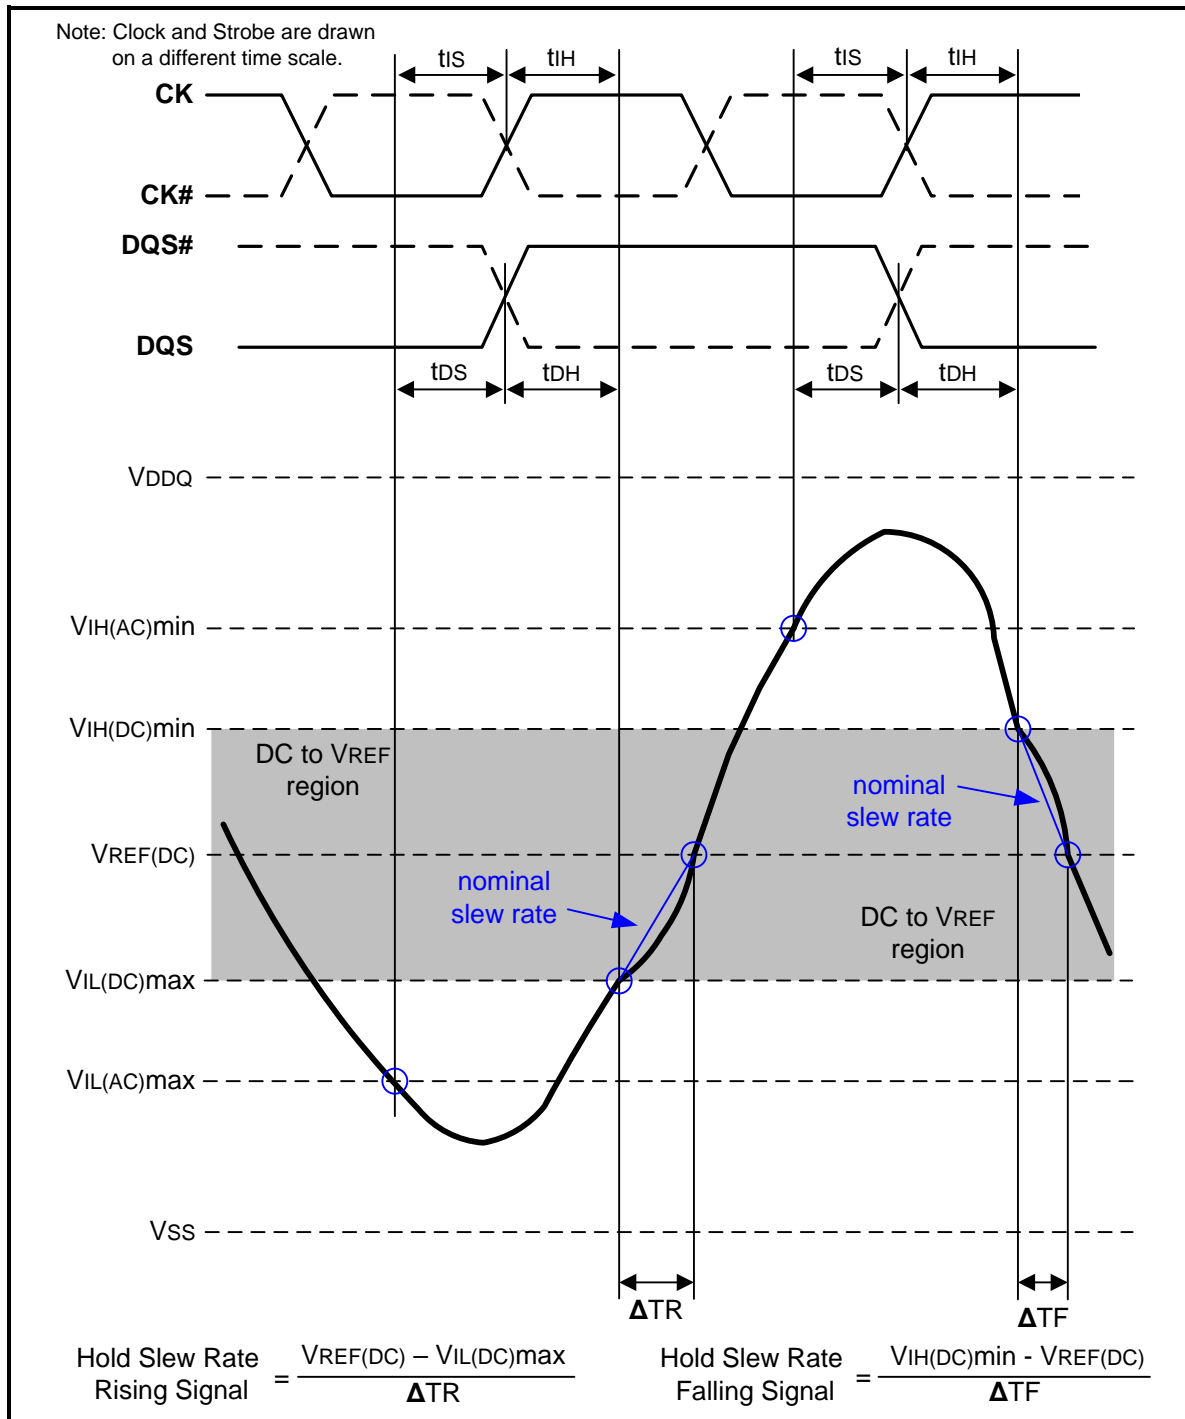
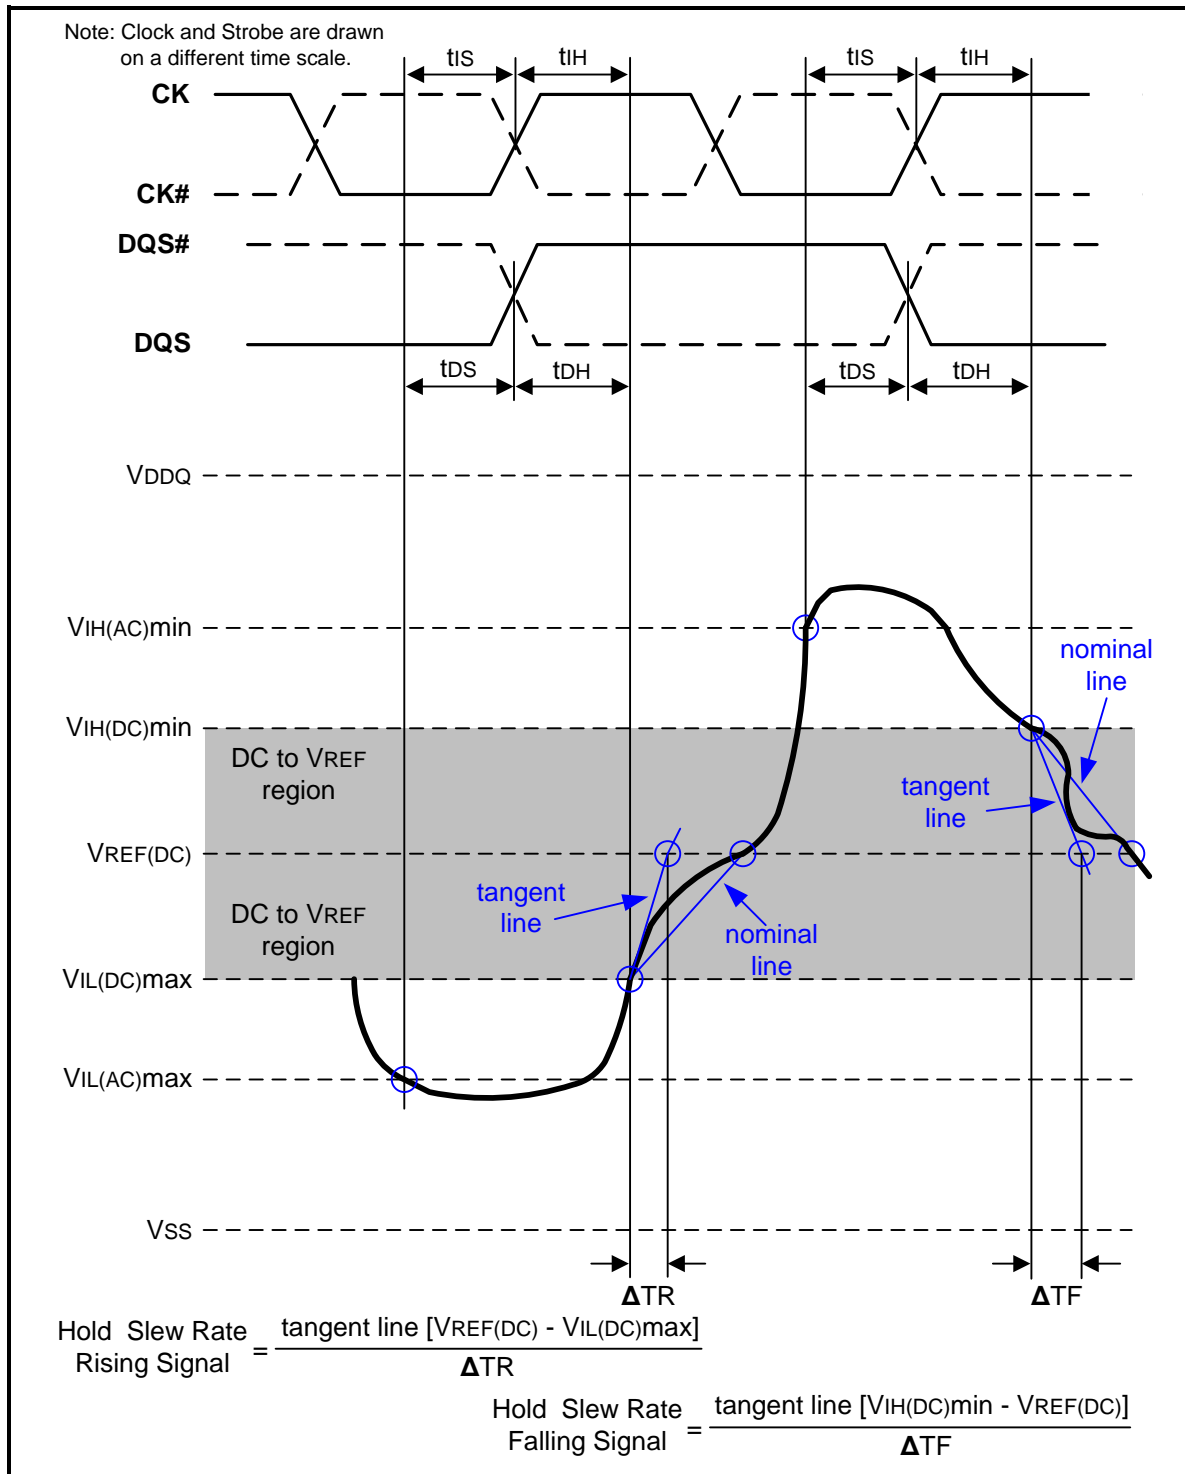

Figure 108 – Illustration of nominal slew rate for hold time tDH (for DQ with respect to strobe) and tIH (for ADD/CMD with respect to clock)
Figure 110 – Illustration of tangent line for hold time tDH (for DQ with respect to strobe) and tIH (for ADD/CMD with respect to clock)
Hold (tDH) nominal slew rate for a rising signal is defined as the slew rate between the last crossing of VIL(DC)max and the first crossing of VREF(DC). Hold (tDH) nominal slew rate for a falling signal is defined as the slew rate between the last crossing of VIH(DC)min and the first crossing of VREF(DC) (see Figure 108). If the actual signal is always later than the nominal slew rate line between shaded 'DC level to VREF(DC) region', use nominal slew rate for derating value. If the actual signal is earlier than the nominal slew rate line anywhere between shaded 'DC to VREF(DC) region', the slew rate of a tangent line to the actual signal from the DC level to VREF(DC) level is used for derating value (see Figure 110).